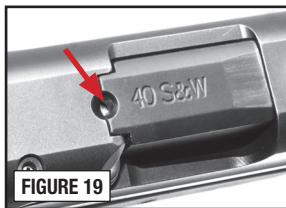

FIGURE 19
**Type 1:** This indicator can be observed by looking at the top of the slide/ejection port, (FIGURE 19) noting an opening at the rear of the barrel hood. By looking into this opening, while keeping the pistol pointed in a safe direction, you can observe whether or not a round is in the firearm's chamber. If a round is in the chamber, you should be able to see the actual cartridge rim through this opening.